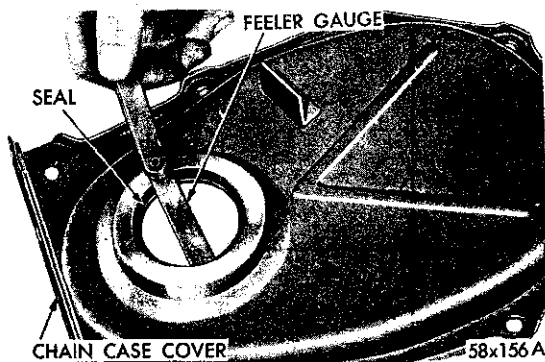

Fig. 26—Inspecting the Seal for Proper Seating
(5) The seal is properly installed when the neoprene is tight against the face of the cover. Try to insert a .0015 inch feeler gauge between the neoprene and the cover (Fig. 26). If the seal is installed properly, the feeler gauge cannot be inserted.